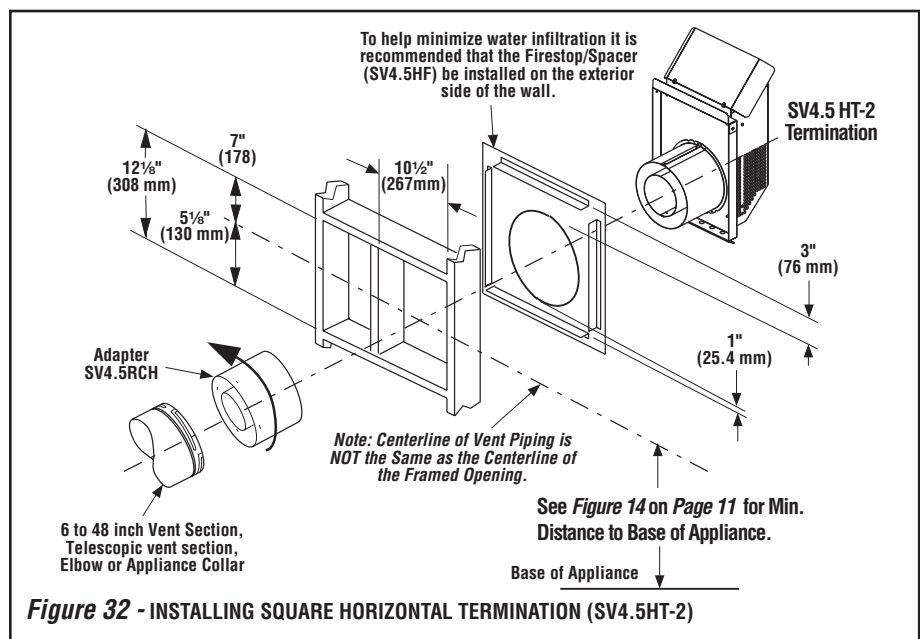

Figure 32 - INSTALLING SQUARE HORIZONTAL TERMINATION (SV4.5HT-2)
J. Assemble vent run to exterior wall - If not previously measured, locate the center of the vent at the exterior wall. Prepare an opening as described in **Step B**. Assemble the vent system to point where the terminus of the last section is located relative to the exterior surface to which the termination is to be attached (see **Figures 32 & 33 and Table 12 on Page 21**).
K. Attach termination adapter - Attach the adapter (adapter - SV4.5RCH - provided with the termination) to the vent section or telescoping vent section, elbow or appliance collar as shown in **Figures 32 & 33** in the same manner as any SV4.5 vent component (refer to **Step E**).
L. Install Firestop/Spacer at exterior wall - When using the **square** termination, install SV4.5HF (Secure Vent), SF4.5HF (Secure Flex) Firestop/Spacer over the opening at the exterior side of the framing, long side up, with the 3 inch spacer clearance at the top as shown in **Figure 32**, and nail into place.